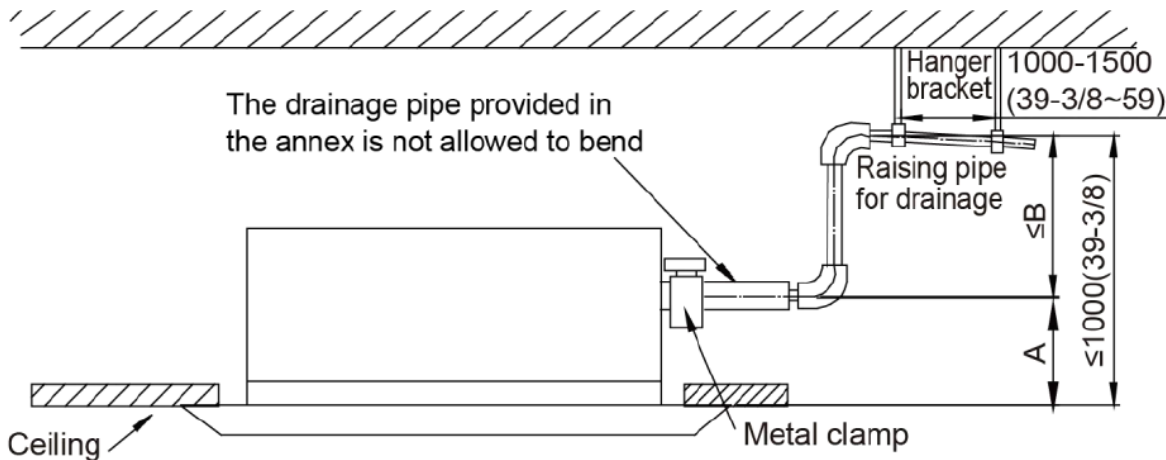

Fig17
- j) The installation height for the raising pipe for drainage should be lower than B. The gradient from the raising pipe towards the drainage direction should be at least 1%~2%. If the raising pipe is vertical with the unit, the raising height should be less than C (Fig17).